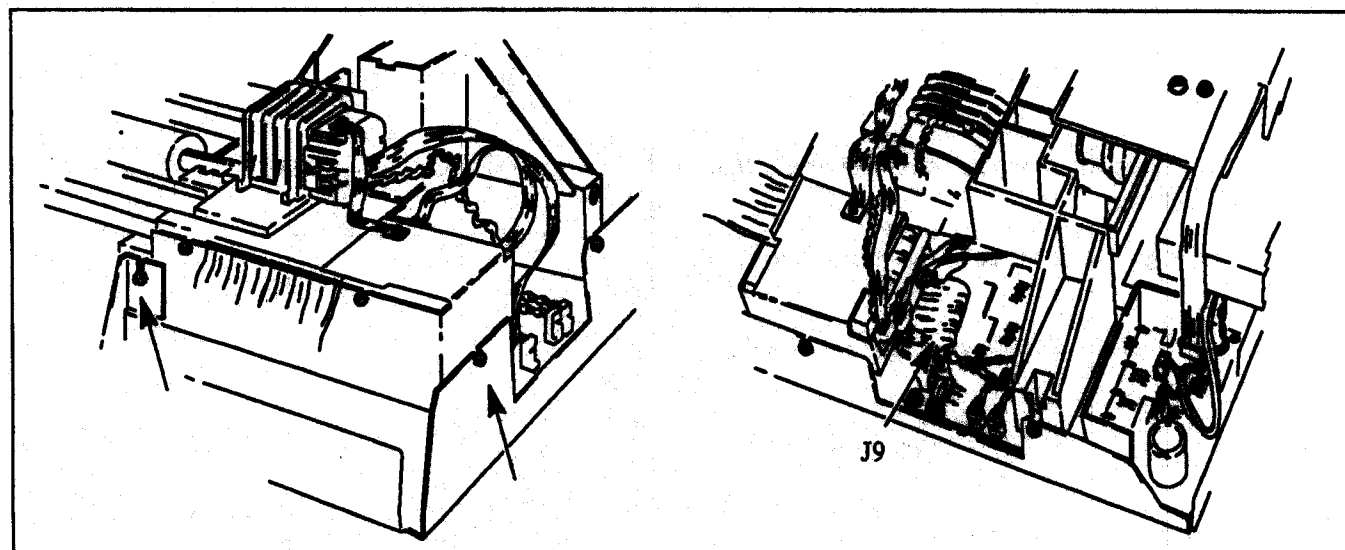

Figure 6-9. Front Panel Cable Removal
- Loosen the two front screws of the front panel cable shield. See Figure 6-9.
- Disconnect the front panel cable at J9 on the Main PCA. See Figure 6-9.